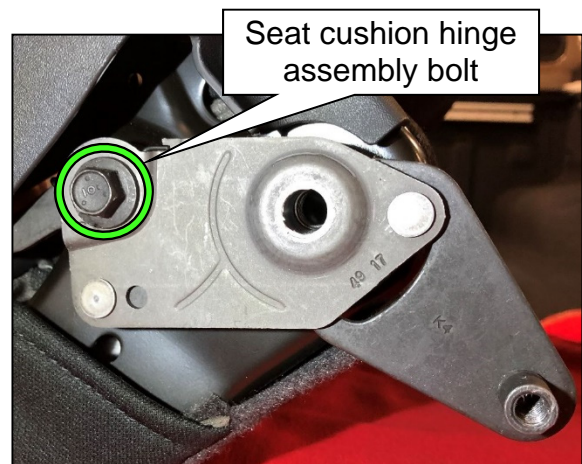

Figure 9
10. Install the new seat cushion hinge assembly using the one (1) existing bolt (Figure 9).